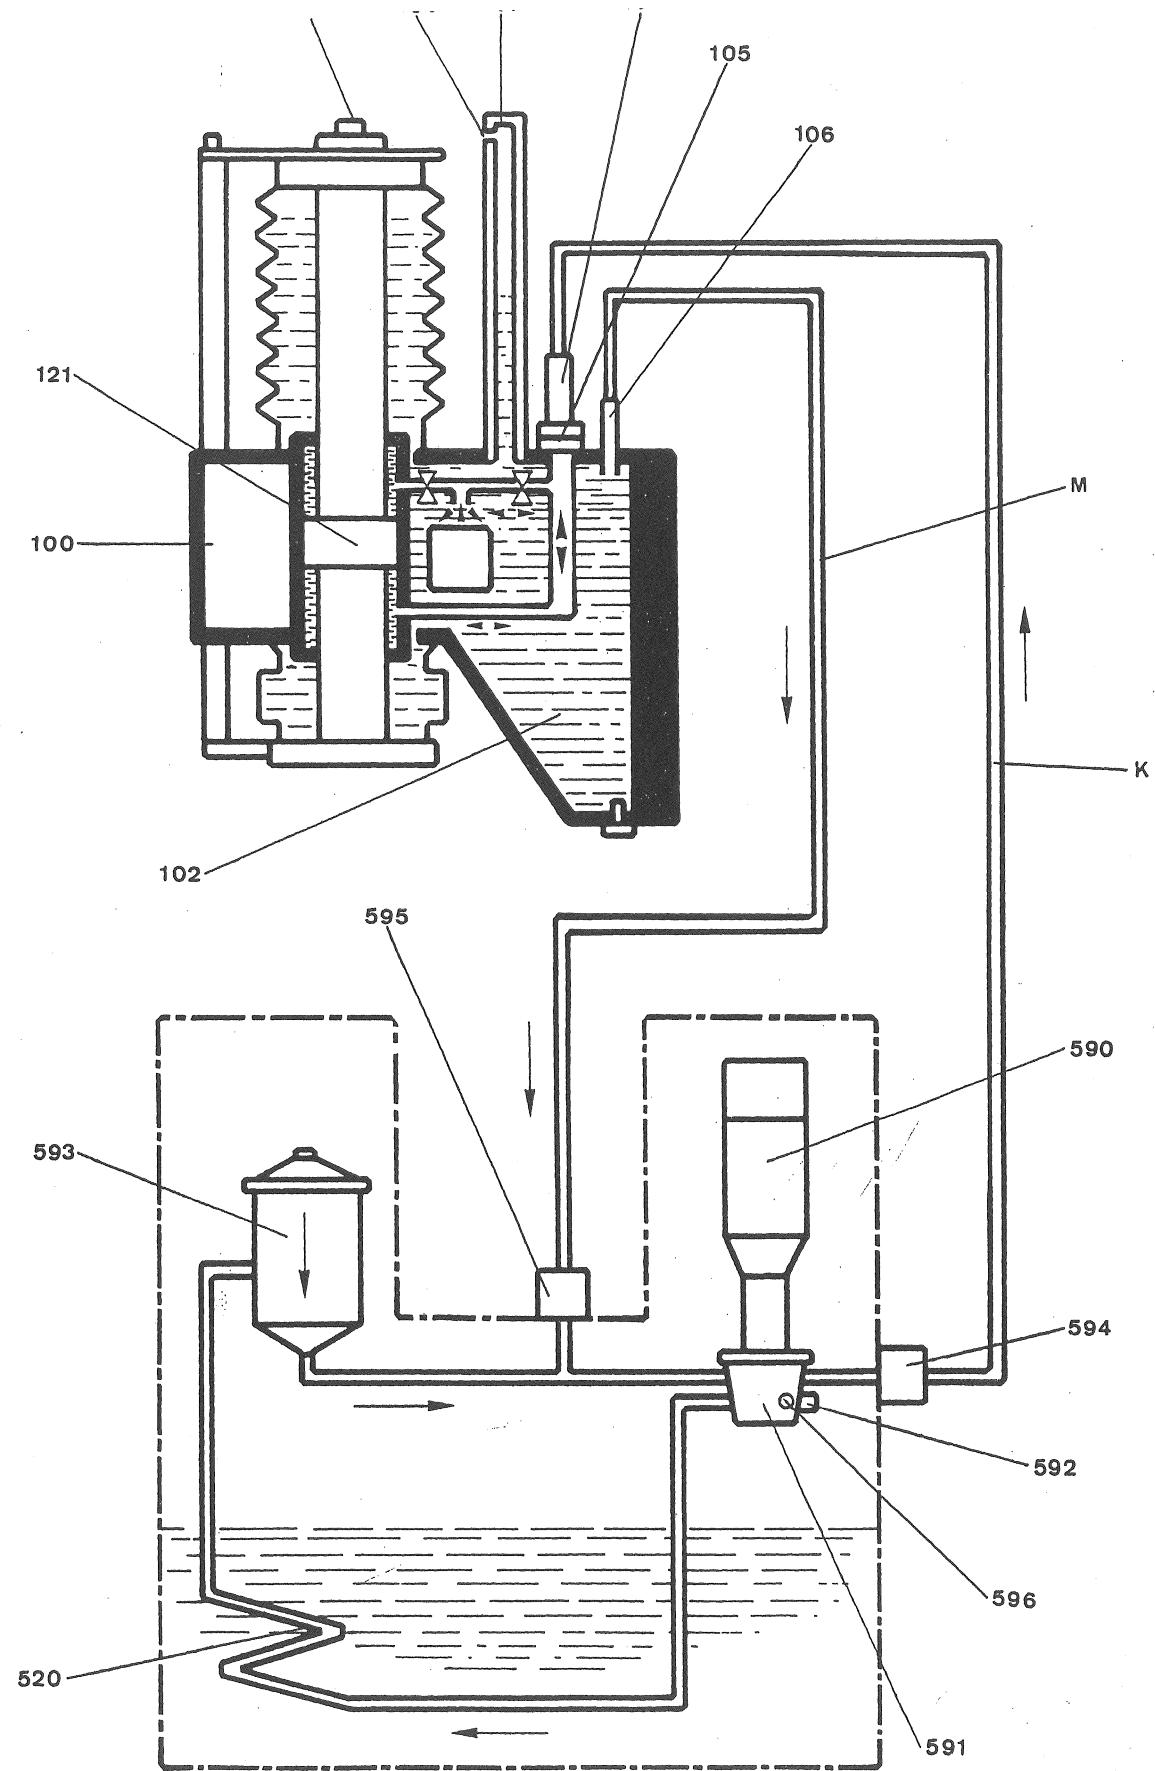

Fig 1
8.10 DIELECTRIC CIRCUIT (figs. 1 & 2)